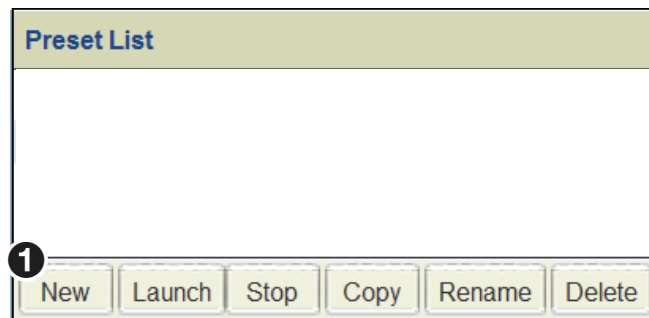

Figure 102. Preset List - New Preset
1. Click **New** (see figure 102, ❶) at the base of the **Preset List** panel to create a blank preset (see Preset Manager Page on page 96).